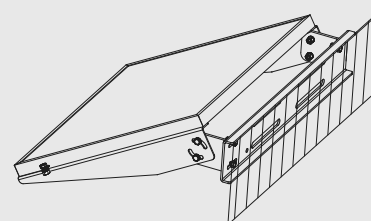

figure 2
Step3. Place PV module and mount assembly on mounting surface in the exact place to be installed. See figure 2. Use at least 4 fastening points. Use four M8 bolts, washers, lock washers and nuts if possible. Otherwise use wood screws, sheet metal screws, anchors, or molly bolts (not included).